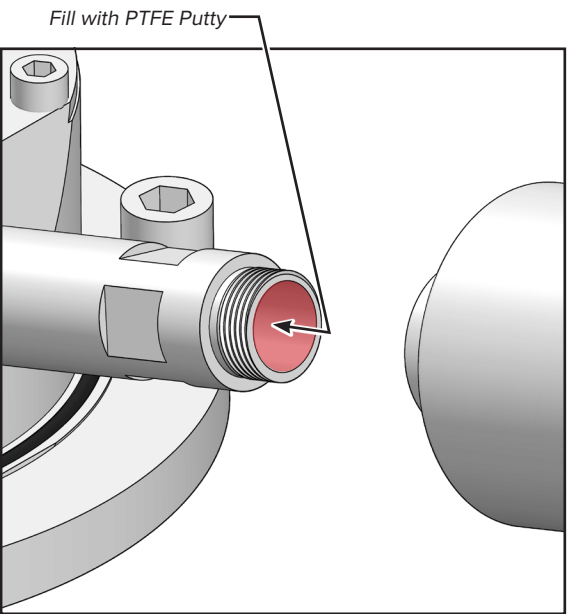

FIGURE 26
- 4. Fill the empty booster pipe with PTFE putty or replace empty booster pipe with new pre-filled one (figure 26).